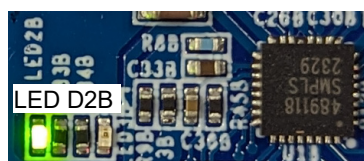

Figure 2. Power Indicator for Sink Mode
5. Connect a USB Type-C sourcing device to the USB Type-C receptacle (CN1) using a USB Type-C Cable and supply power to the battery module. Confirm green LED (D2B) light is on as shown in Figure 2.
6. Connect a USB Type-C sourcing device to the USB Type-C receptacle (CN1) using a USB Type-C Cable and supply power to the battery module. Confirm green LED (D2B) light is on as shown in Figure 2.